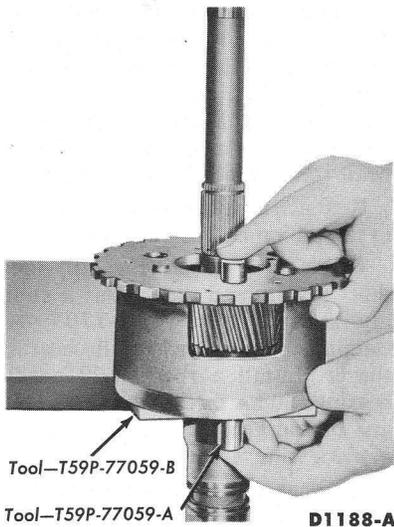

FIG. 17—Short Pinion Removal or Installation
3. With the tool shown in Fig. 17, push a short pinion shaft up from the bottom until the tool clears the
10. Use the marked shaft for this location to push the dummy shaft and extra pinion shaft out the bottom (Fig. 17).